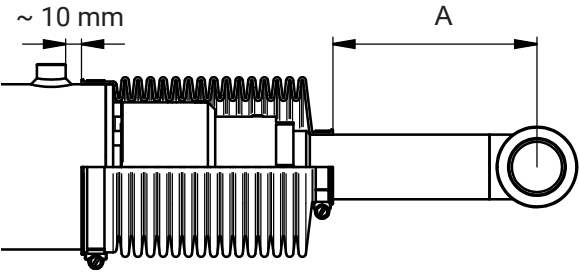

Figure 33. Installing boots
11. Fit the tilt cylinder boots. Figure 33.